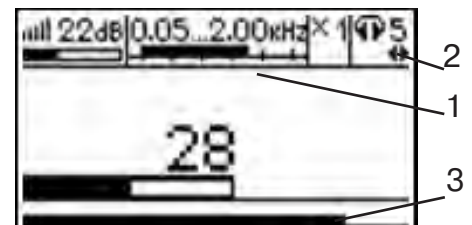

Fig. 3.3
3.3.2 Select broad band mode by pressing the  button (pt.5, fig. 3.1). A broadband symbol  will appear on the display (pt. 1.fig.3.3).
If you are tracing a live cable or a pipeline under cathodic protection set frequency to 100 to 120 Hz by pressing the frequency button  (pt.10, fig.3.1), press / buttons (pt.4, fig.3.1) until the required frequency is displayed on the screen (pt. 1 fig. 3.3). For example: after setting the frequency to 50 to 60 Hz  the symbol will appear.
3.3.3 Leave the filter adjustment mode by pressing the filter button **f** (pt.10 fig. 3.1). Help indicator **◀▶** will disappear from the display window (pt.1 fig. 3.3) and will appear in the volume adjustment zone (pt.2 fig. 3.3).
3.3.4 Set an acceptable volume level (pt.2 fig.3.3) by pressing the **◀/▶** buttons (pt.4 fig.3.1) (provided that the buttons are not being used for filter adjustment).
3.3.5 Set the input signal level using sensitivity buttons **||||** and **|||||** (pt.8 fig.3.1) based on the narrow band indicator (preferably at 50 to 70% of maximum value) (pt.3 fig.3.3).